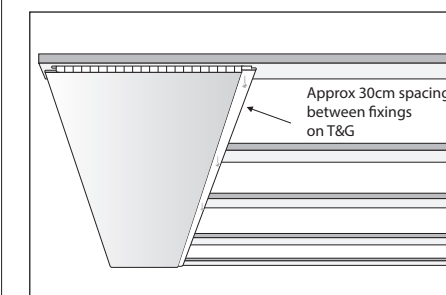
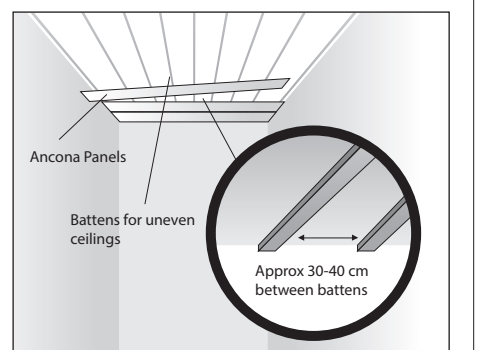

Fig.13
Fig.14
- Battens should be placed within the sub-frame with approximately 30cm-40cm spacing between, according to the direction of assembly. (Fig.13 & Fig.14)